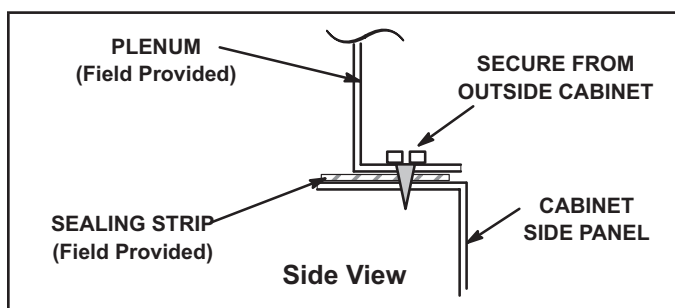
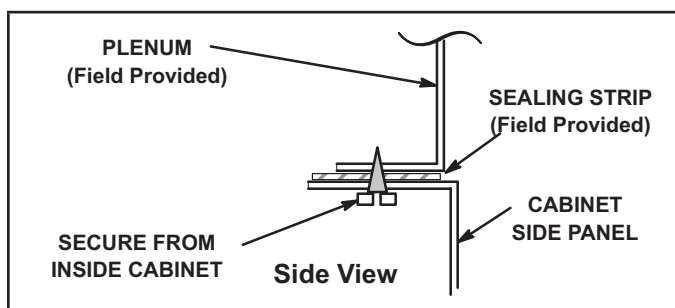

FIGURE 17
FIGURE 18
- 1 - Bottom edge of plenum should be flanged with a hemmed edge (See FIGURE 17 or FIGURE 18).